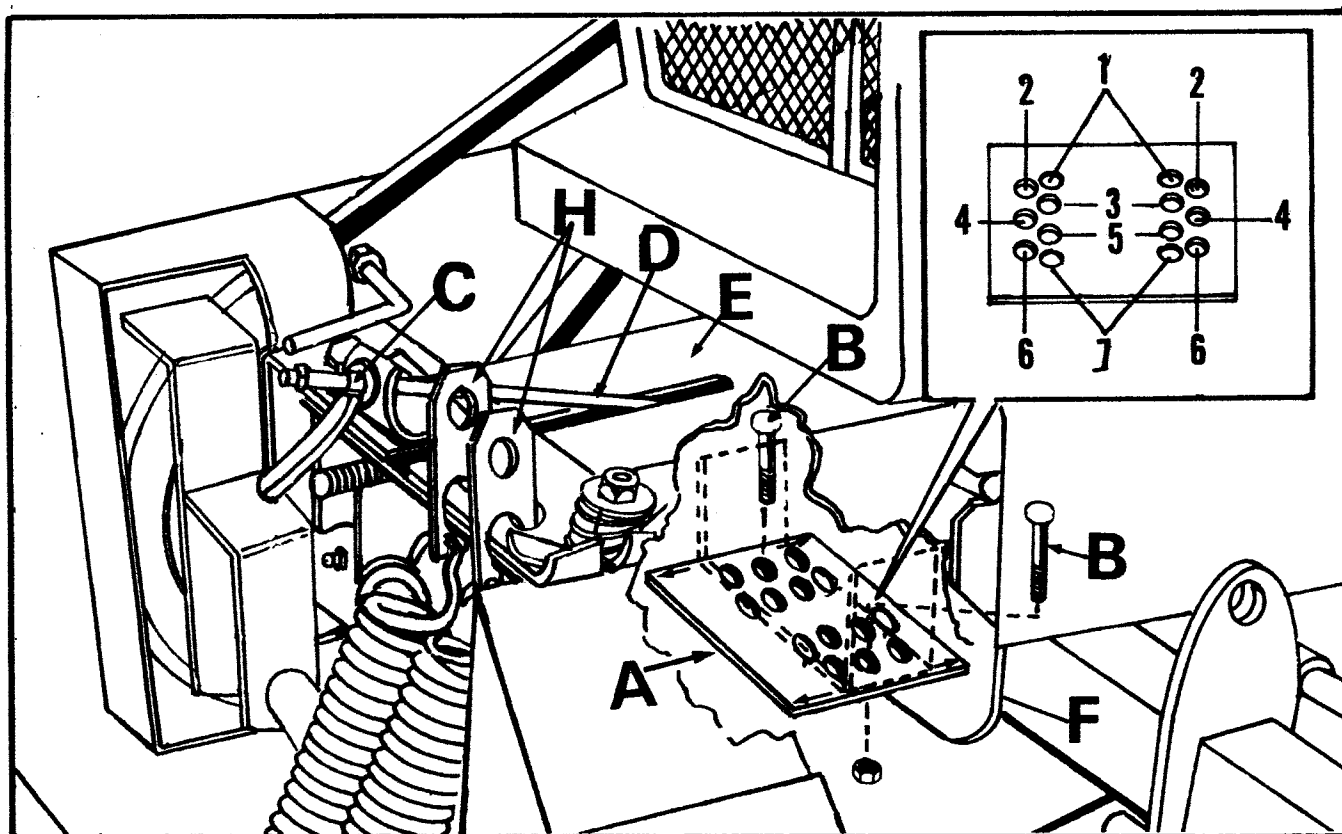

Fig. 18 A
Most belt adjustments can be made by adjusting clutch rod trunnion (E) as needed. For added V-belt adjustment, change setting of position plate (A) (Fig. 18) as required to properly adjust your V-belt.
(Fig. 18)
7. Plate (A) (Fig. 18) is normally assembled at the factory with bolts in hole pattern #4 (normally used with 16 H.P. and 18 H.P. twin cylinder engine tractors). If snow thrower is installed on other models of suburban tractors (12 H.P. or 16 H.P. single cylinder engine models) it may be necessary to remove mounting bolts (B) from hole pattern location #4 and place bolts in hole pattern location #3, to achieve proper V-belt adjustment. As V-belt seats into drive, it may be necessary to reset position plate (A) (Fig. 18) to compensate for belt stretch or wear.
8. Moving position plate (A) (Fig. 18) to higher bolt pattern number will increase center distance between V-belt pulley (M) and engine pulley (C) (Fig. 17) thereby permitting added belt tension, if needed. Moving position plate (A) to lower bolt pattern number will decrease center distance between pulleys (M) and (C) (Fig. 17) permitting decreased belt tension, if needed. Each hole pattern number represents a change of 1/4" in center distance. Hole pattern #1 is nearest to tractor axel plate (F) (Fig. 18).